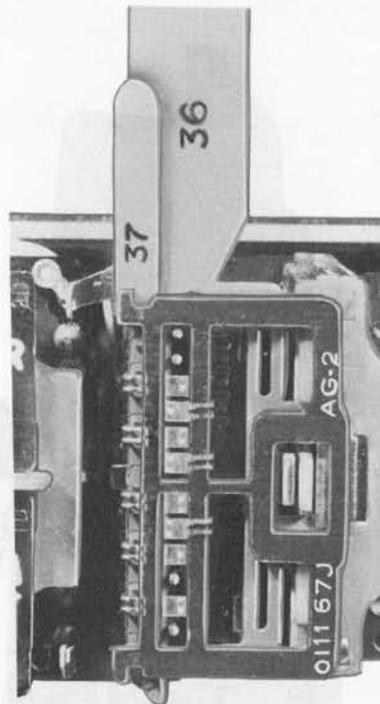

Fig. 8—Detail 37 Comb in Place with Detail 36 Lifter
4.12 Insert detail 37 comb behind the card and in front of detail 36 lifter with the teeth facing the lifted movable contacts as shown in Fig. 8. The comb automatically will come to rest on the stop, and the movable contact springs will align in pairs between the teeth of the comb.